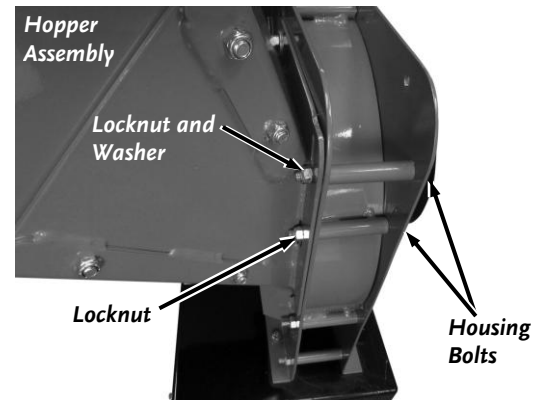

Figure 8
3. Push the two Housing Bolts through the Hopper assembly (**Figure 8**).